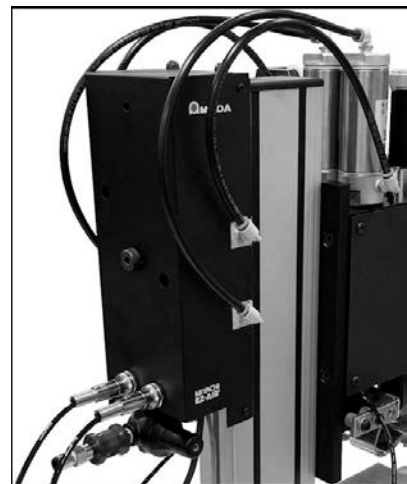

Figure 2-3 Installation of New Elbow Fittings and Pneumatic Tubes
- 3 Using the included push-in fittings, connect the pneumatic tubing. **NOTE:** Be sure the tubing is pushed in all of the way to prevent leakage, leading to imperfect welds. On each side of the EZ-Air are two fittings; the fittings on each side go to the respective cylinder of that side, with the top fitting of the EZ-Air going to the bottom fitting of the cylinder, and the top fitting of the EZ-Air going to the bottom fitting of the cylinder, as shown in figure 2-3.